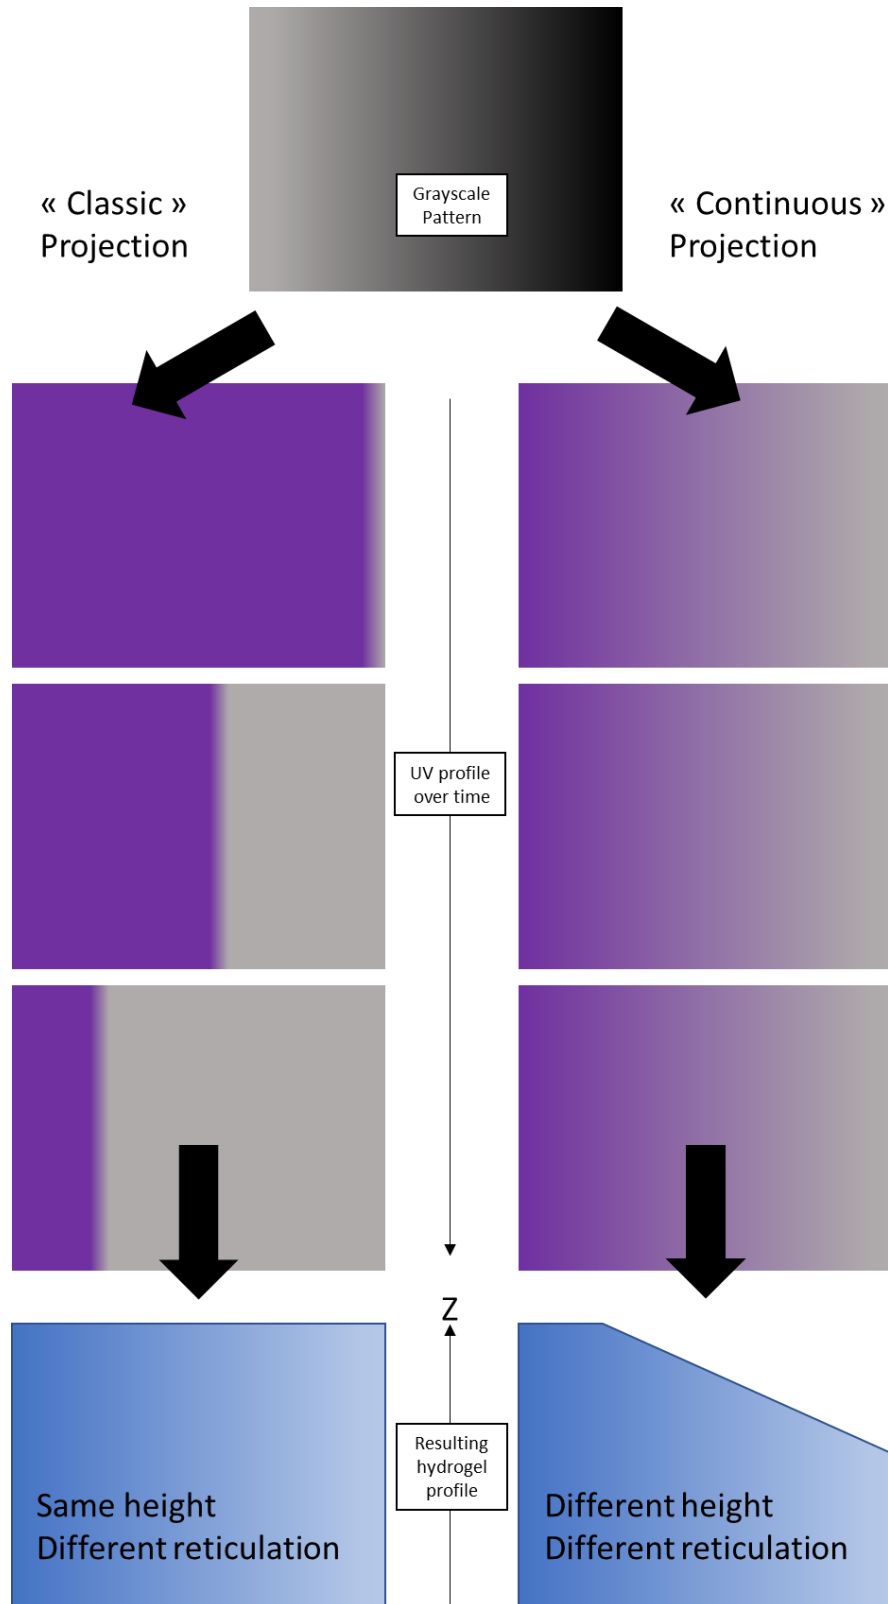

Figure 1: Control of height or stiffness depending on the exposure mode
- Assemble a chamber made of a glass coverslip on top of which two PDMS stencils are stacked (as described in *figure 1*).